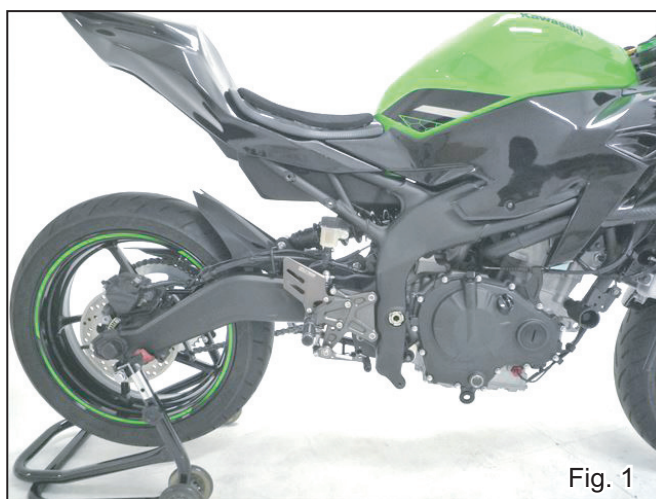

Fig. 1
- 3) According to Kawasaki service manual, disconnect O2 sensor coupler from vehicle and then remove whole exhaust system from vehicle after taking O2 sensor off from stock exhaust system. (See Fig. 1)